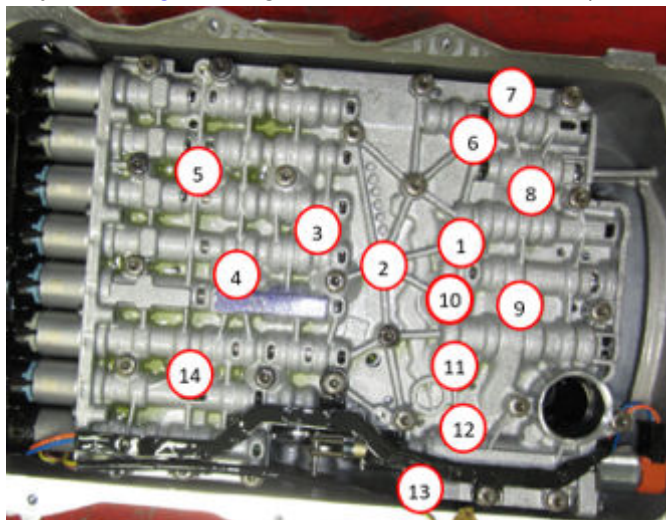

Fig. 42
63. Install the valve body assembly bolts Fig. 42. Tighten the bolts to 8 N-m (71 In. Lbs.).